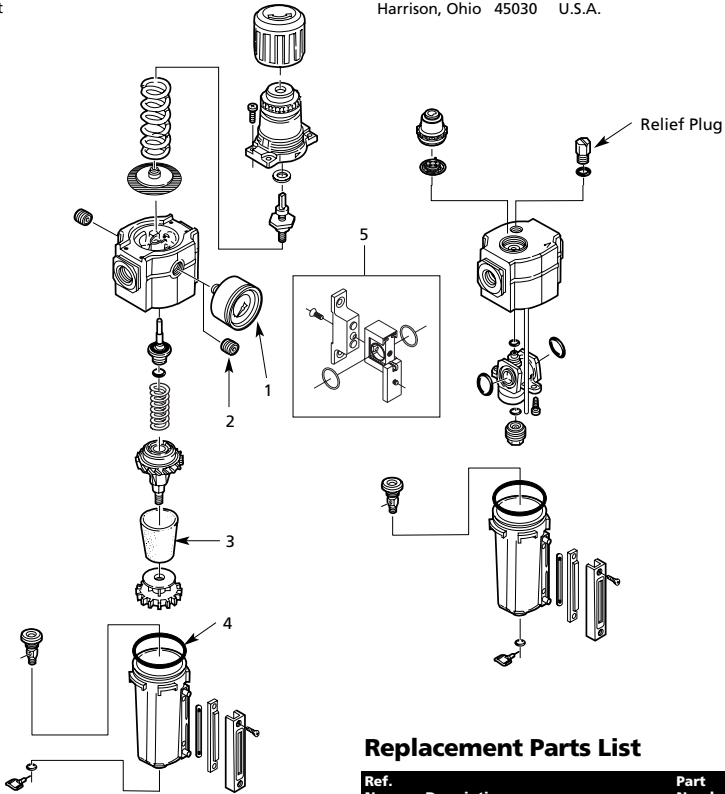

Figure 2
2. Remove plug from plastic bag. Use Teflon® tape on the threads and install securely in the port opposite of the gauge (See Figure 2).
- The lubricator can be refilled while the system is under pressure. **Slowly** remove relief plug to allow relief of air pressure (See Figure 2). After the relief plug has been removed, the bowl can also be removed. Pour oil into the bowl and replace. **Replace relief plug before resuming operation.** Do NOT replace the relief plug until the bowl is securely locked in place.